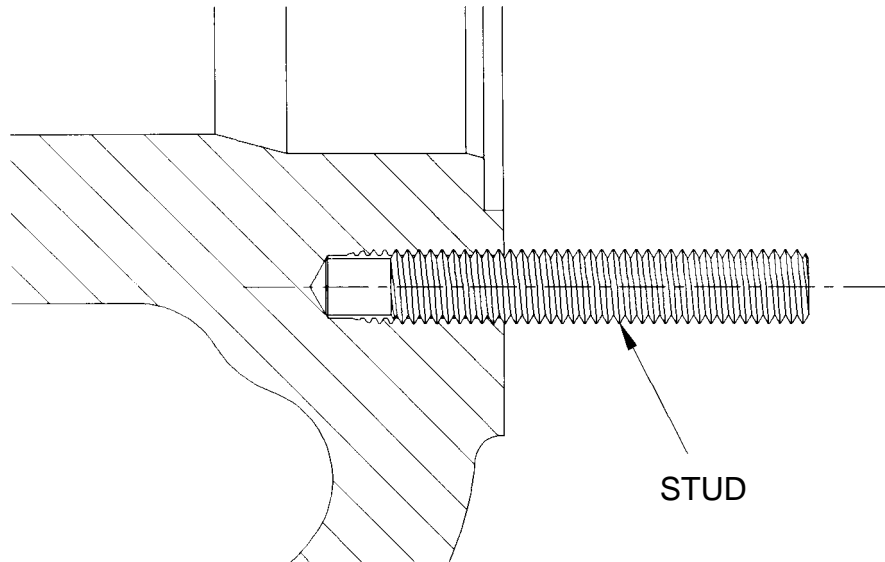

FIGURE 1-3 DOG POINT STUDS
1. When studs are specified for cylinder applications, tighten stud-nuts to the same values as cap screws in similar applications. Reference Figure 1-3